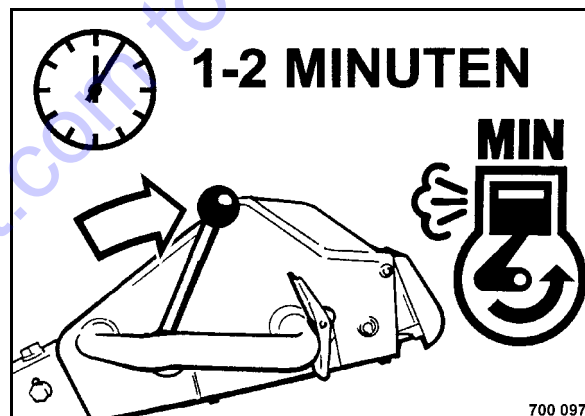

Fig. 29
- After starting take the throttle lever back to position "MIN" (Fig. 29).